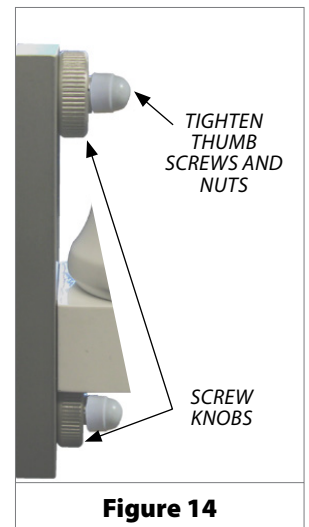

Figure 14
3. Position the **ARM** to the desired height and fasten **2x KNOBS** and **2x NUTS** (12 mm) to the tightest possible position. Cover the **NUTS** with the **2x PLASTIC CAPS** provided. (Figure 14)